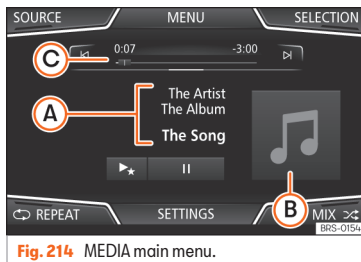

Fig. 214 MEDIA main menu.
- Press the infotainment button to open the *Media* main menu » **Fig. 214**.
The media source being played is indicated on the dropdown list when pressing the **[SOURCE]** function button » **Fig. 214**.